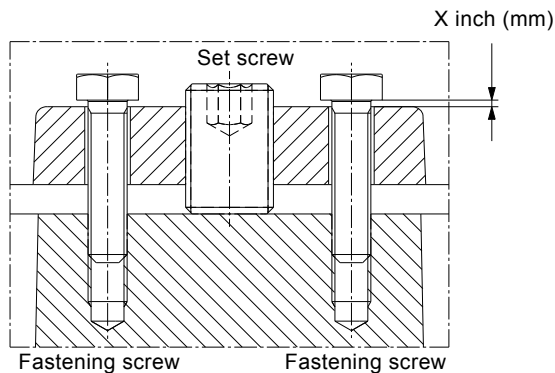

Fig. 6 Impeller clearance adjustment
3. Loosen the fastening screws to make the correct gap under the heads of the fastening screws. See fig. 6.